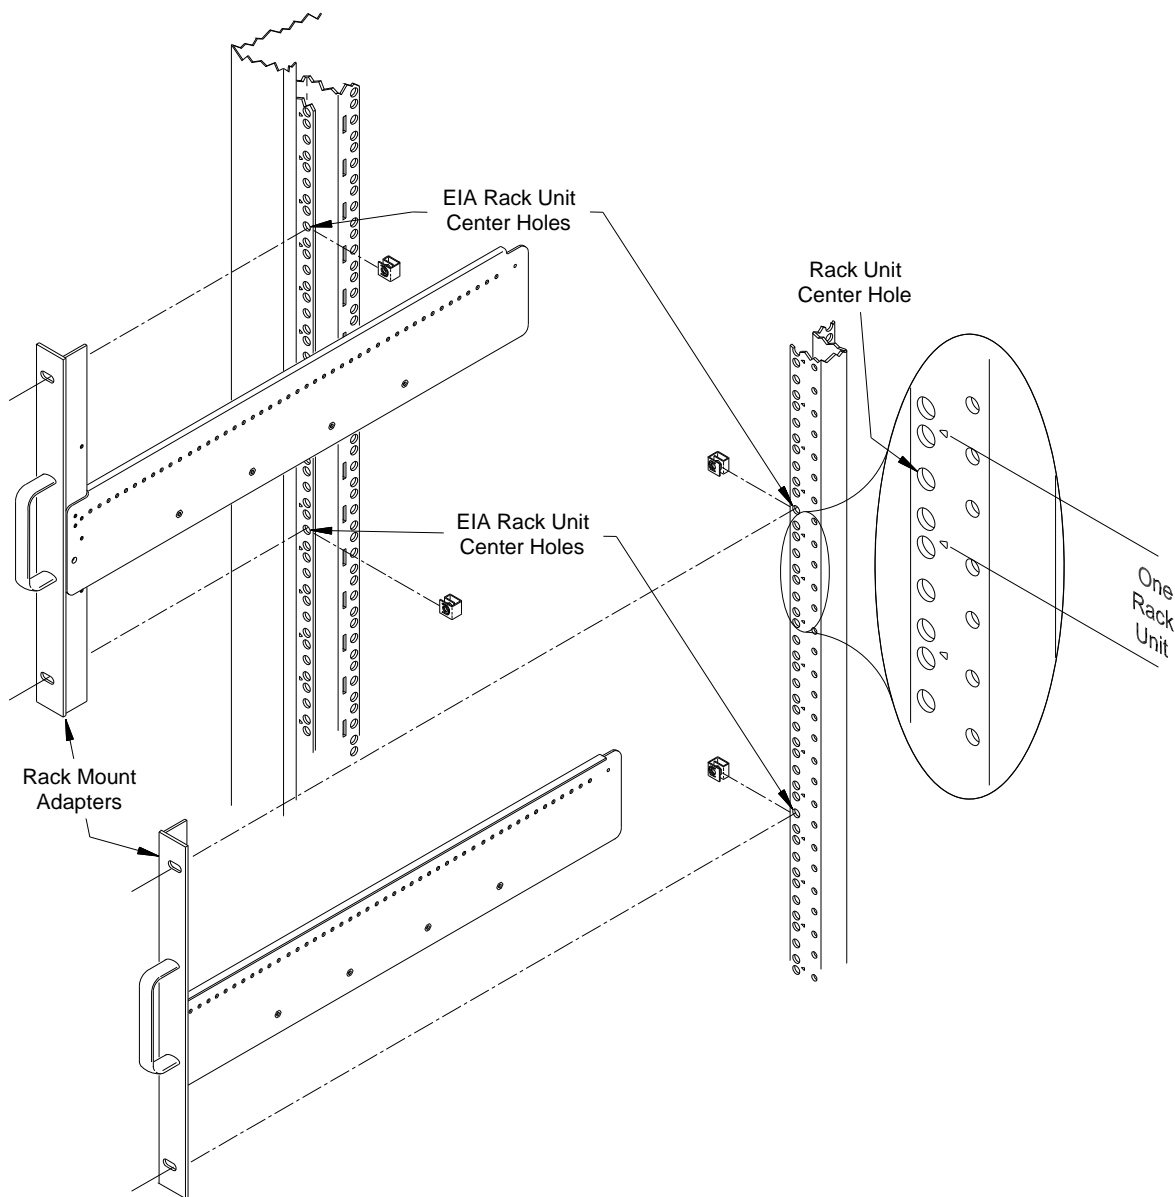

Figure 2-6. Positioning the Mainframe in the Rack
2. Using the rack mount adapters as templates, position the adapters on the rack's vertical rails where the mainframe is to be positioned. Be sure to align the adapter holes over center holes on the vertical rail (Figure 2-6).